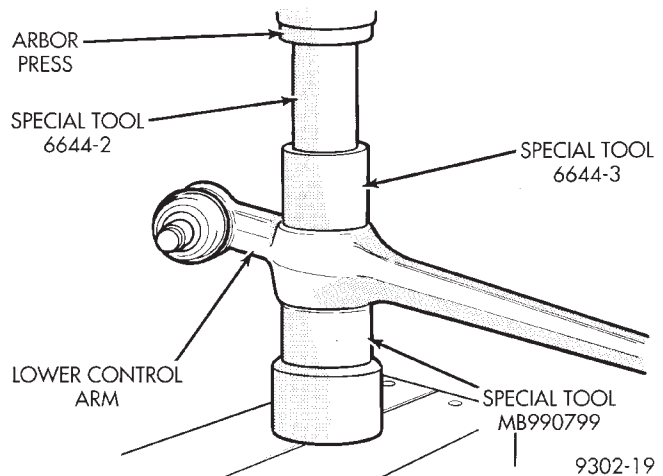

Fig. 6 Installing Tension Strut Bushing Into Lower Control Arm
(1) Thoroughly lubricate the replacement tension strut bushing, lower control arm and Installer, Special Tool 6644-3 using Mopar® Silicone Spray Lube or an equivalent.
(2) By hand, install tension strut bushing into large end of Installer, Special Tool 6644-3. Press bushing into installer as far as it will go by hand.
(3) Position lower control arm in arbor press, so tension strut hole in lower control arm is centered on Receiver, Special Tool MB-990799. (Fig. 6). Position Installer, Special Tool 6644-3 with previously installed bushing, inside of tension strut bushing hole in lower control arm (Fig. 6). Position Installer, Special Tool 6644-2 on top of tension strut bushing (Fig. 6). Using the arbor press, press the tension strut bushing into the lower control arm. As the bushing is being pressed into the control arm a pop will be heard. When the pop is heard Installer, Special Tool 6644-3 will slightly move